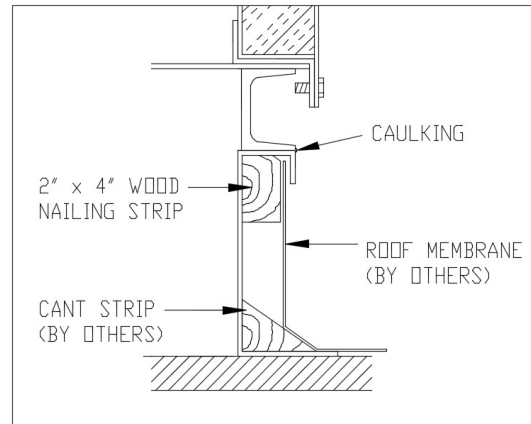

Figure 19: Cross section of Roof Curb
- 6) Apply caulking to edge between unit base rail and roof curb (ref. Figure 19). Tool in caulk to ensure proper seal. Failure to provide an adequate seal can result in air and water leakage into the building.